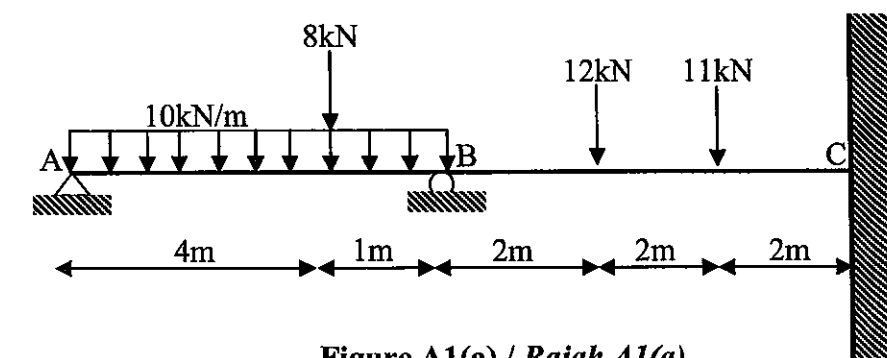

Figure A1(a) / Rajah A1(a)
- (b) Calculate the Fixed End Moment (FEM) for continuous beam in Figure A1(a).